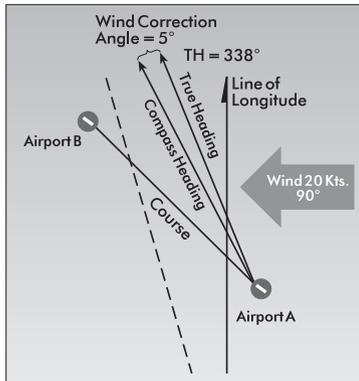

Figure 15 *Factor in the wind speed and wind direction to determine true heading.*
11. In this example, you'd fly a compass heading of 022 at true airspeed of 200 knots for 8 minutes, 30 seconds. See figure 15.